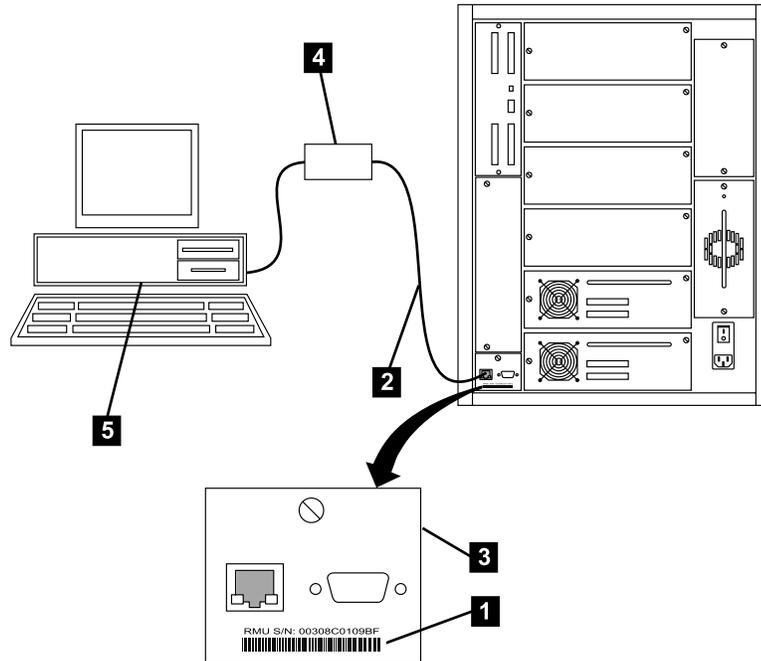

Figure 4. Connecting the RMU to a computer
7. Attach an Ethernet cable (**2** in Figure 4 on page 7) with RJ-45 connectors to the RMU **3** and an Ethernet hub **4** that is attached to a computer **5**.
When you configure the Ultrium Tape Library to a network the media access control address (*MAC ID*) that appears on the RMU (see **1** in Figure 4) must match the MAC Address that displays on the Library Status screen of the TotalStorage Specialist (see Figure 5 on page 8). The MAC ID is the RMU's serial number. It appears on the RMU as RMU S/N: xxxxxxxxxx (where xxxxxxxxxx equals the serial number); the same number must appear on the Library Status screen of the TotalStorage Specialist, although colons typically separate the characters.